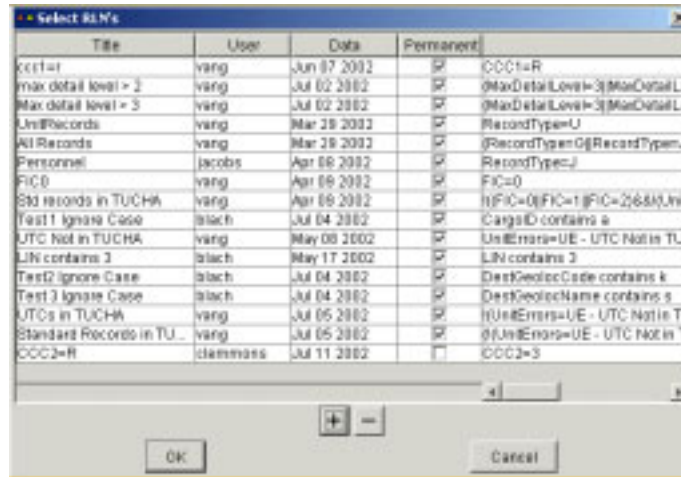

Figure 5.107 Select RLN's Window
22. Click OK. The Enter Label for RLN's Set window closes and the new RLN name is displayed and highlighted at the bottom of the list on the Select RLN's window (Figure 5.107).